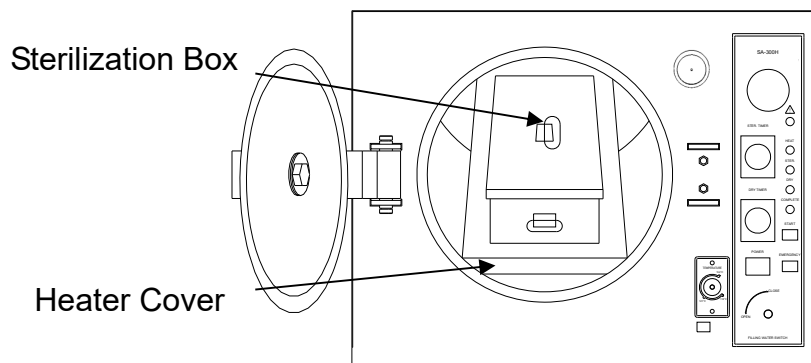

Figure 6 – Sterilization Box
- C. Install the Sterilization Box as Figure 6 – Sterilization Box. (optional accessory)